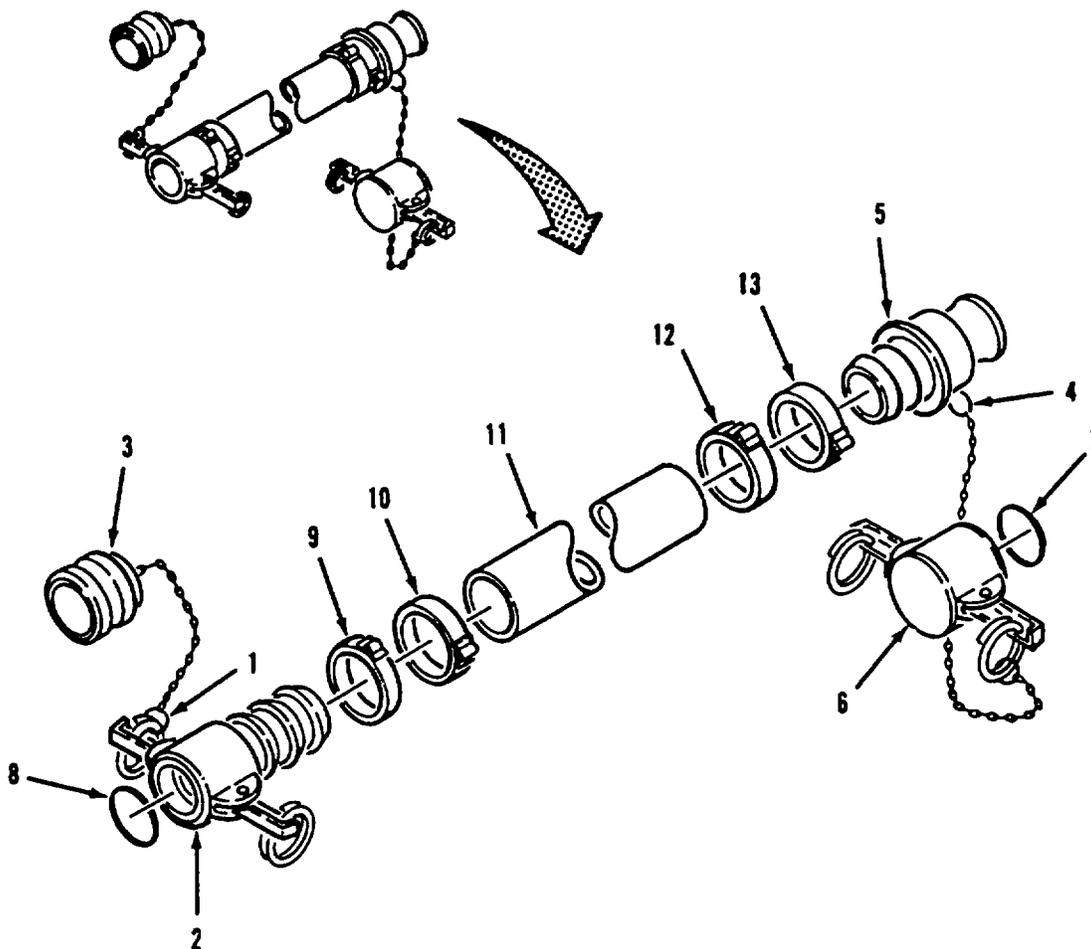

Figure 4-4. Discharge and Suction Hose Disassembly
- a. Disassembly. Refer to Figure 4-4.
- (1) Disconnect split ring (1) from female coupling (2) and remove dust plug (3).
- (2) Disconnect split ring (4) from male coupling (5) and remove dust cap (6).
- (3) Remove gasket (7) from dust cap (6).
- (4) Remove gasket (8) from female coupling (2).
- (5) Cut strapping (clamps) (9 and 10) from hose (11). Pull female coupling (2) from hose.
- (6) Cut strapping (clamps) (12 and 13) from hose (11). Pull male coupling (5) from hose.
- (1) Push male coupling (5, Figure 4-4) and female coupling (2) into hose (11).